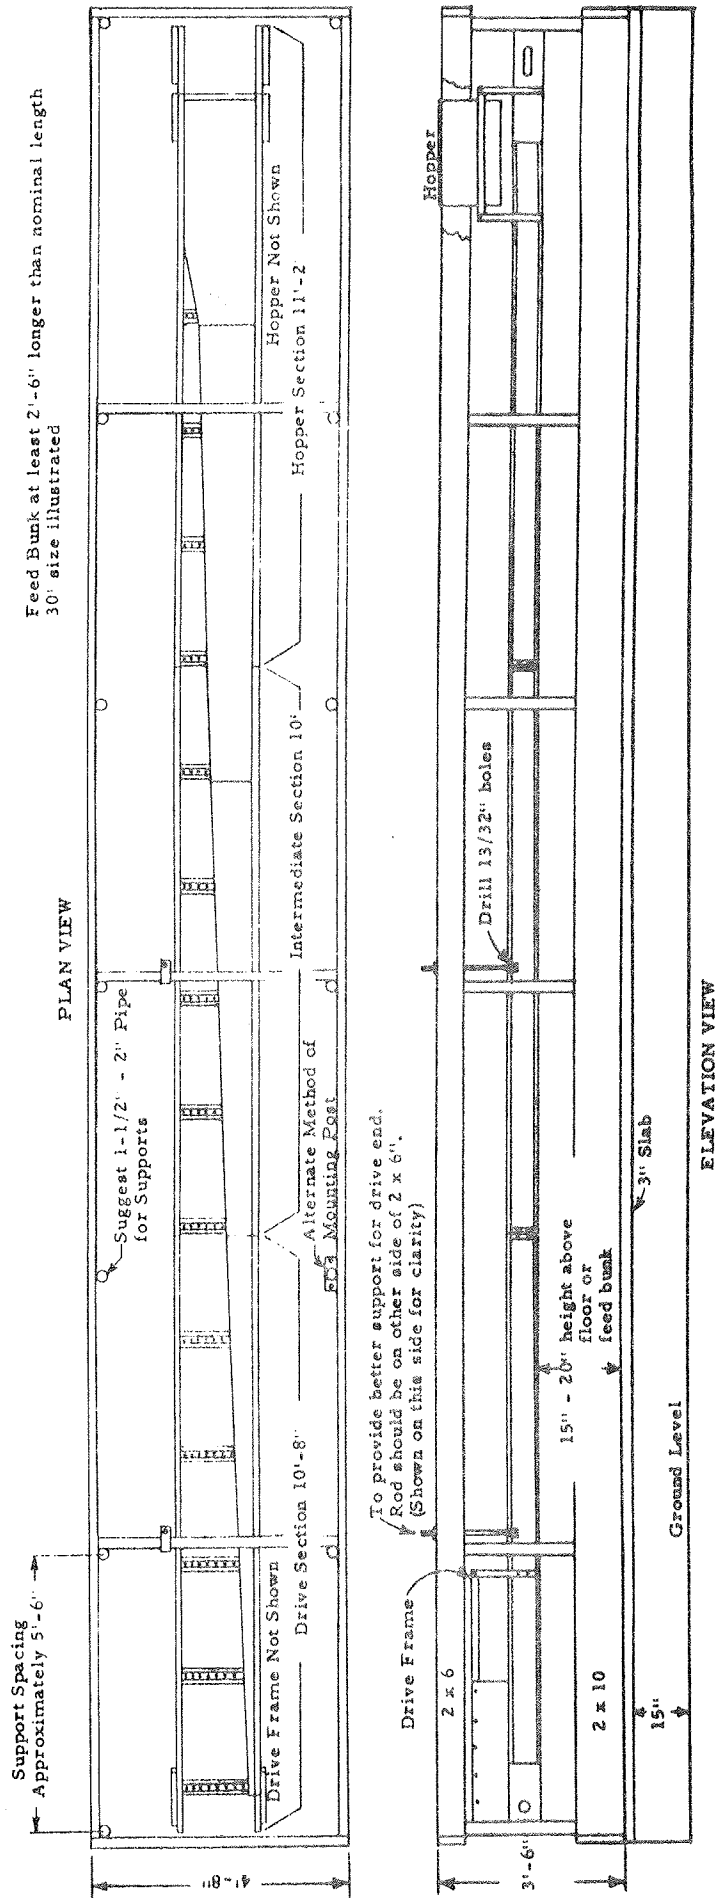

Figure 2
Refer to Figure 2, page 10 for positioning and suspending feeder in bunk.
2. Place hopper (take-up) track section in position over two 2 x 4's at the end of the feed bunk next to the silo (Figure 2).